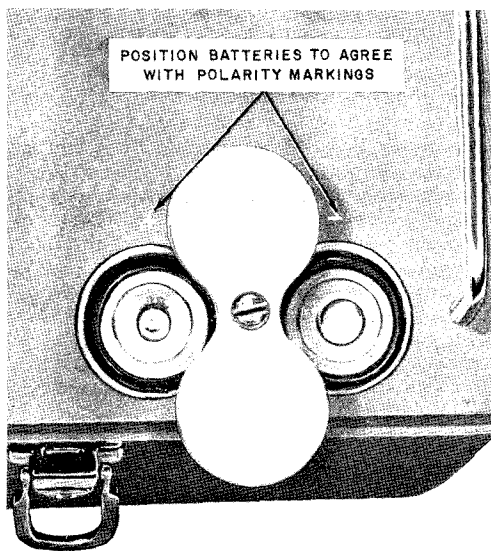

Fig. 3 — Correct Battery Placement
3.04 To replace the batteries, turn the battery holder stud (Fig. 3) 1/4-turn to the left and rotate the battery holder cover. Insert the new batteries into the holder, reposition the cover, push the stud down and rotate it 1/4-turn to the right.